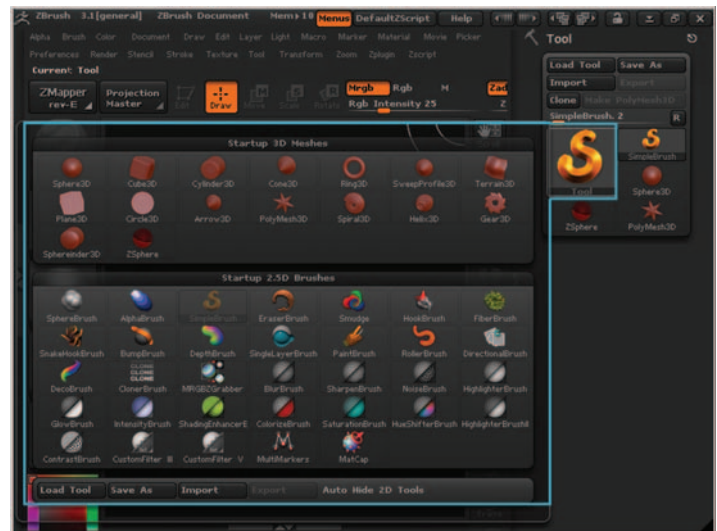

Figure 11.9 The Tools rollout. To bring up this rollout you can click on any of the Tool icons on the right of the ZBrush UI.
1. Left-click on one of the tool icons in the Tool menu. A rollout menu featuring 3D meshes as well as 2.5D brushes is presented. Figure 11.9 shows the Tools rollout as well as the icon I clicked to bring up the menu.